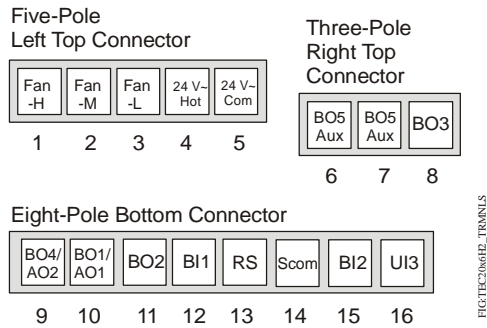
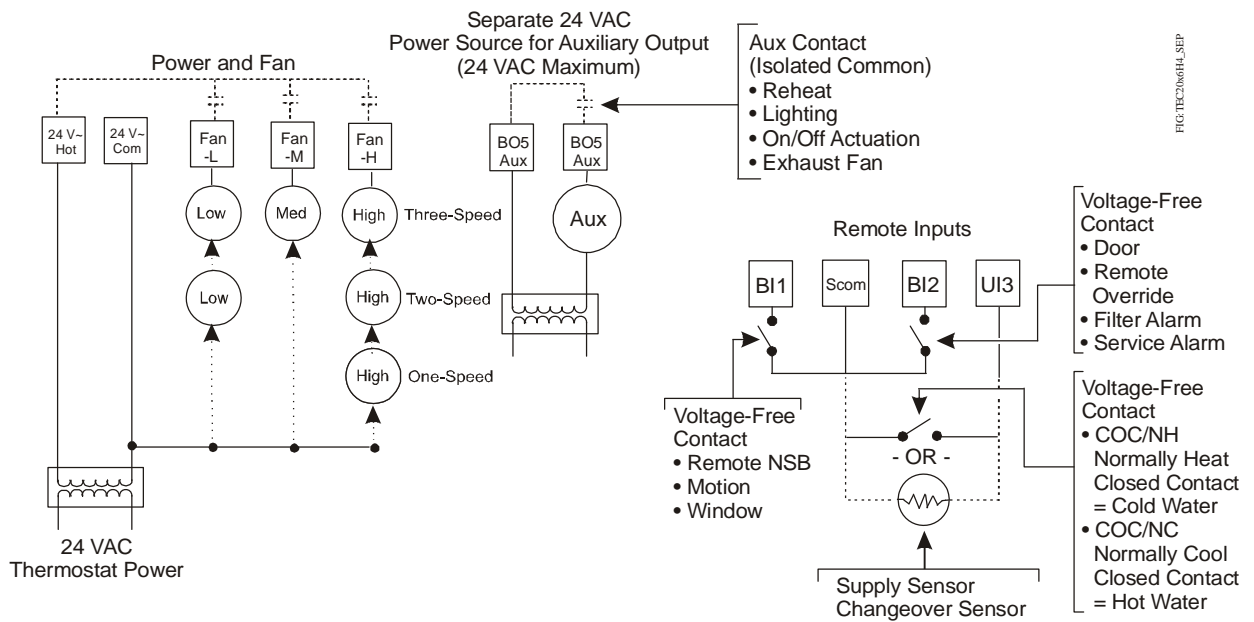
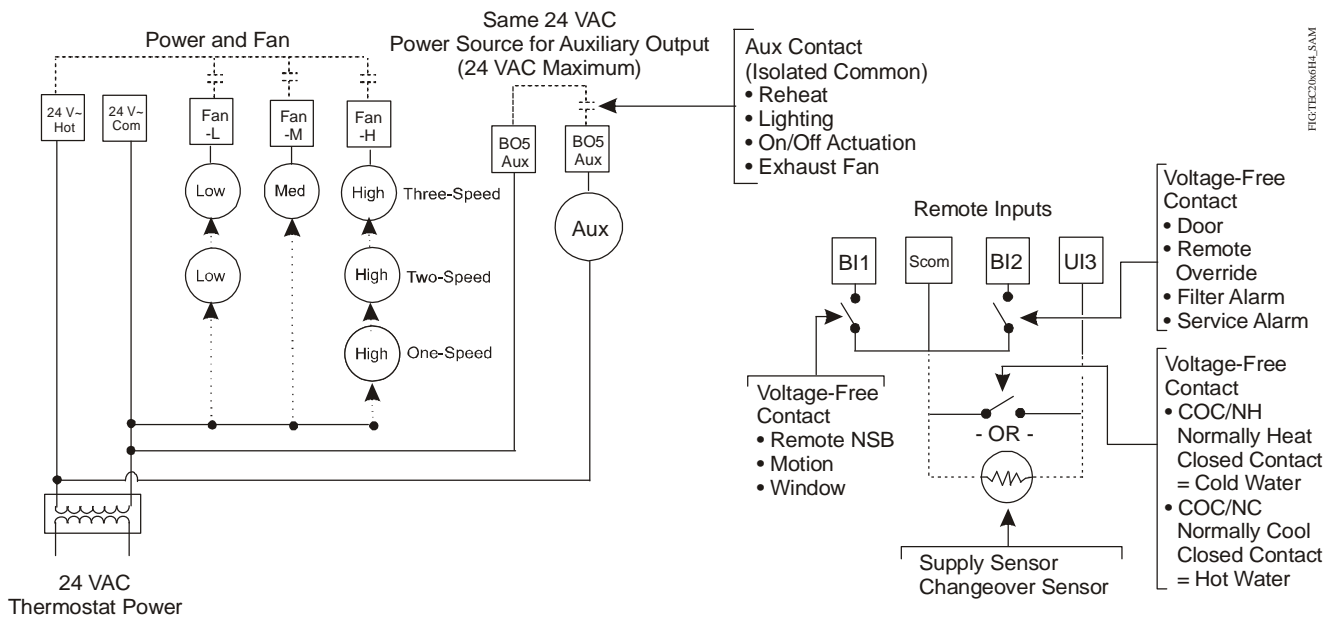

Figure 5: TEC20x6(H)-4 and TEC20x6H-4+PIR Series Thermostat Controller Terminals
Figure 6: TEC20x6(H)-4 and TEC20x6H-4+PIR Series Thermostat Controller with Separate Power Source for Auxiliary Contact
Figure 7: TEC20x6(H)-4 and TEC20x6H-4+PIR Series Thermostat Controller with Same Power Source for Auxiliary Contact
1. Strip the ends of each wire 6 mm (1/4 in.) and connect them to the appropriate screw terminals as indicated in Figure 5.
See Figure 5, Figure 6, Figure 7, and Table 2 for information on wiring the thermostat controllers.